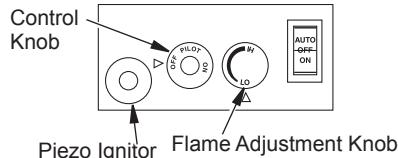

Figure 12 - Setting Control Knobs
4. Press in and turn control knob clockwise \curvearrowright to the **OFF** position (see Figure 12).
5. Wait five (5) minutes to clear out any gas. If you then smell gas, **STOP!** Follow "B" in the safety information in column 1. If you don't smell gas, go on the next step.
6. Press in and turn control knob counter-clockwise \curvearrowleft to the **PILOT** position. Press in control knob for five (5) seconds (see Figure 12).